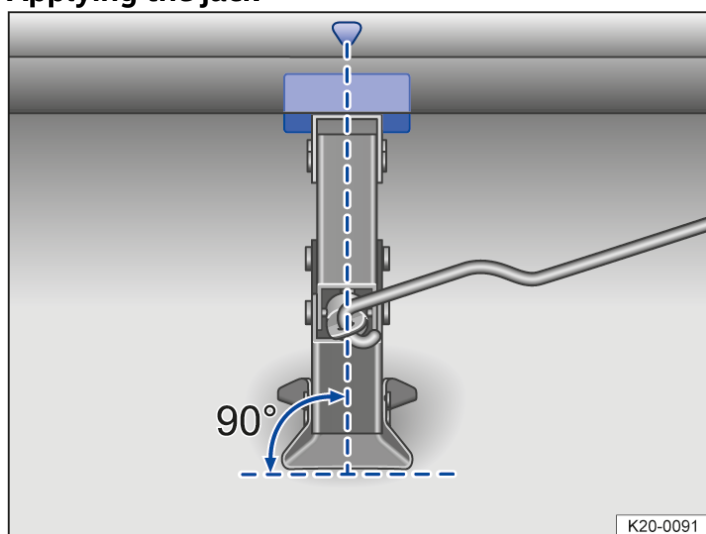
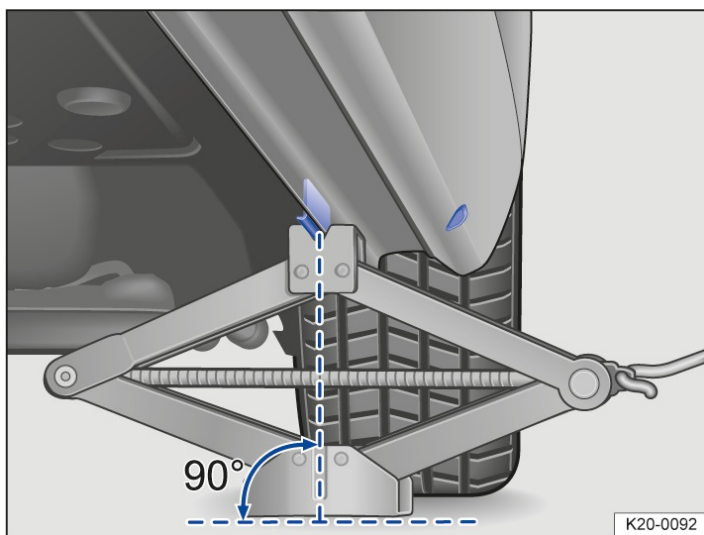

Fig. 2 Correct alignment of the jack.
Fig. 3 Scissors jack applied at the rear on the left-side of the vehicle.
10. Make sure that the entire surface of the foot of the jack is resting securely on the ground and that the foot of the jack is positioned vertically directly beneath the jacking point → Fig. 2 and → Fig. 3.
11. Position the jack and simultaneously continue to crank the claw up until it is in position around the jacking point underneath the vehicle → Fig. 3.
- Apply the jack only at the points described. The jack claw must grip the vertical rib under the side member securely → Fig. 3.